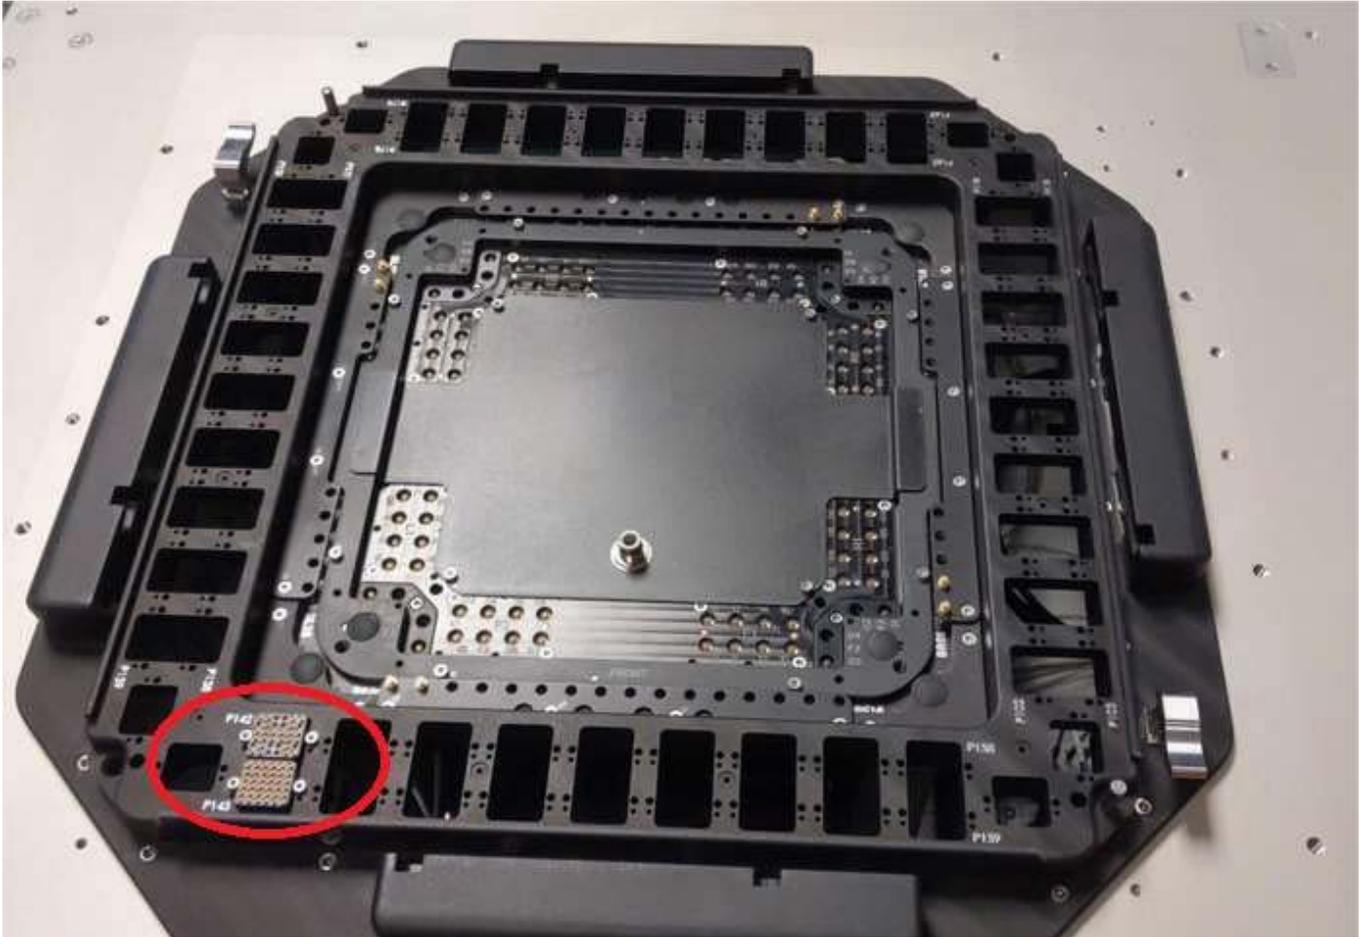

Figure 3 STS Blindmate (DC Pogo Pins P142, P143)
2. Lock CCLB in place so that IDPROM pins come in contact with the spring-loaded P142 and P143 pogo block pins on the STS blindmate. Refer to Figures 3 and 4 in the Appendix.